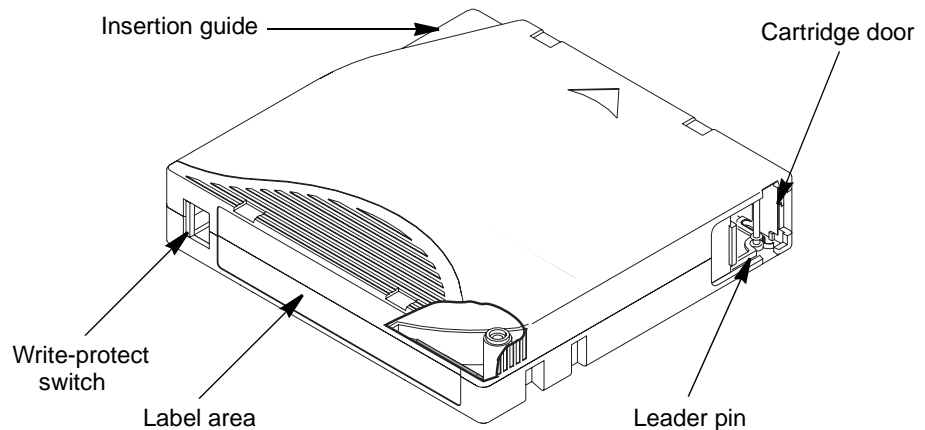

Figure 4-1 LTO Ultrium data cartridge components
Figure 4-1 shows an LTO Ultrium data cartridge and its components.
The position of the write-protect switch on the data cartridge, shown in Figure 4-1, determines whether you can write to the tape.
- ▶ Position the label within the recessed label area (see Figure 4-1 on page 21).